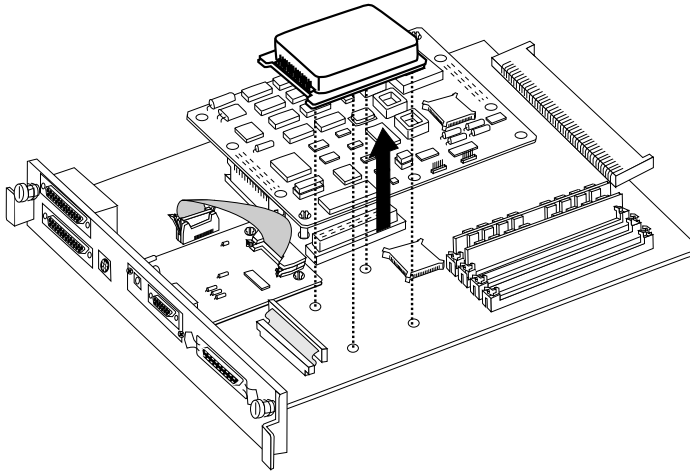

Fig. 8.25 Remove the Old Hard Disk
4. Remove the old disk by pulling up on each corner while steadying the board near the disk with one hand (fig. 8.25).